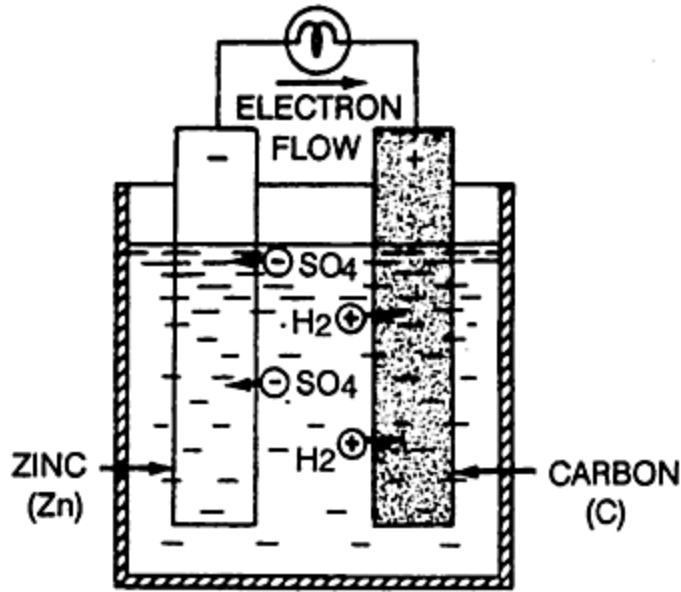

FIGURE 4-1. Simple Voltaic or Galvanic Cell.
A cell is a device that transforms chemical energy into electrical energy. Figure 4-1 shows the simplest cell, known as a galvanic or voltaic cell. It consists of a piece of carbon (C) and a piece of zinc (Zn) suspended in a jar that contains a sulfuric acid solution (H_2SO_4), called the electrolyte.